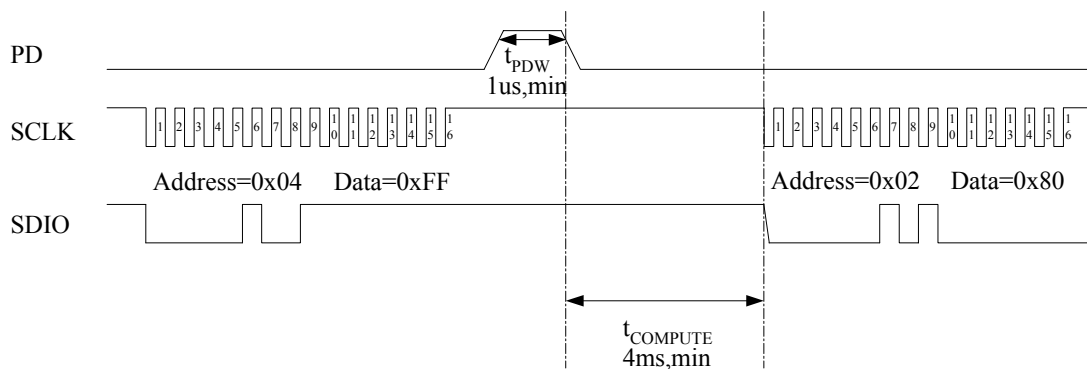

Figure 8. Read the motion data from PAN101B
| t _{COMPUTE} | Data delay after PD↓ | 4 | | | ms | After t _{COMPUTE} , all registers contain valid data from first image after PD↓. Note that an additional 128 frames for Auto-Exposure (AE) stabilization may be required if mouse movement occurred while PD was high. (Refer to Figure 8.) |